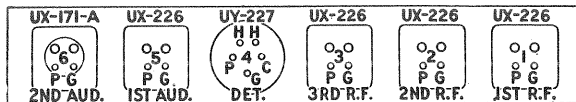

Fig. 1—Top Front View of Radio Tube Sockets
- Test between either filament contact of socket No. 1 and the plate "P" contact. (See Fig. 1).